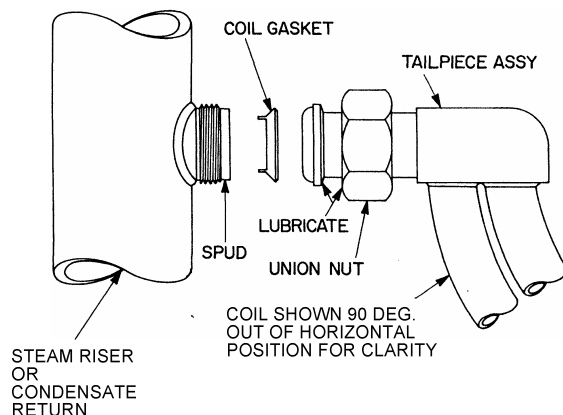

Figure SG-101-6. Assembly of Coil to Steam Riser or Condensate Return
- D2. Disconnect ALL external piping from the Generator top head, including that to the Relief Valve (24). Disconnect the Secondary Steam outlet piping at the union or flanges located beyond the outside diameter of the Generator top head.
- D3. Disconnect Union (29) located above the Level Controller (34).
- D6. Close the Shutoff Cock (38) in the Primary Steam Pressure Gage line and disconnect the Compression Fitting (25).
- D8. Remove Nuts (14) and Studs (12) from the Generator bottom head flanges.
- D9. Using a hoist or block and tackle attached to the Lifting Lugs (2) on the Generator top head, CAREFULLY lift the top head and shell STRAIGHT UP off the Generator riser and coil, assembly., DO NOT SCRAPE the shell lining against the coil tubing.
- D12. If a coil must be replaced, use a 1-5/16" open end wrench to disconnect the unions holding the coils to the Steam riser and Condensate return. Be careful not to damage the spud threads (see Figure SG-101-6).
- a. See Figure SG-101-6. A conical Coil Gasket (10) is required for each Coil union in the Generator. It is recommended that Coil Gaskets (10) be replaced whenever a coil is reassembled to a Riser or Return, even though the Coil itself is not being replaced. Snap the gasket into the Riser or Return spud.
- b. Before attempting to assemble the Coils to the Riser or Return spuds, wrap each spud with Teflon tape and apply a lubricant (grease) to the back of the union nuts and shoulders on the Coil tail pieces (see Figure SG-101-6). Rotate the nuts to spread the lubricant.
- c. Assemble the Coil union to the Condensate Return (8) first. Do not tighten. Assemble the other Coil union to the Steam Riser (7).